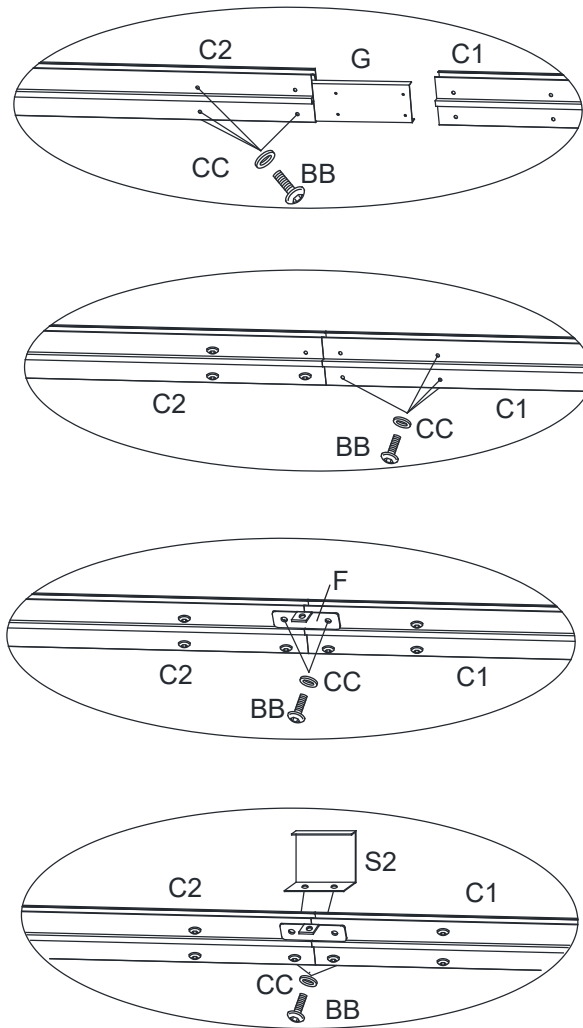

Fig.2.2
2.2. Connect the Short Left Lintel (C1) with the Short Right Lintel (C2) through the Lintel Connector - Large (G) with bolt (BB) and washer (CC), then connect the Connector (F) to the joint of the lintel (C1/C2) with bolt (BB) and washer (CC), put the Lintel Cover - Center (S2) onto the joint of the two lintels with bolt (BB) and washer (CC), pay attention to install the screws based on the orders shown in the illustration. See.Fig.2.2